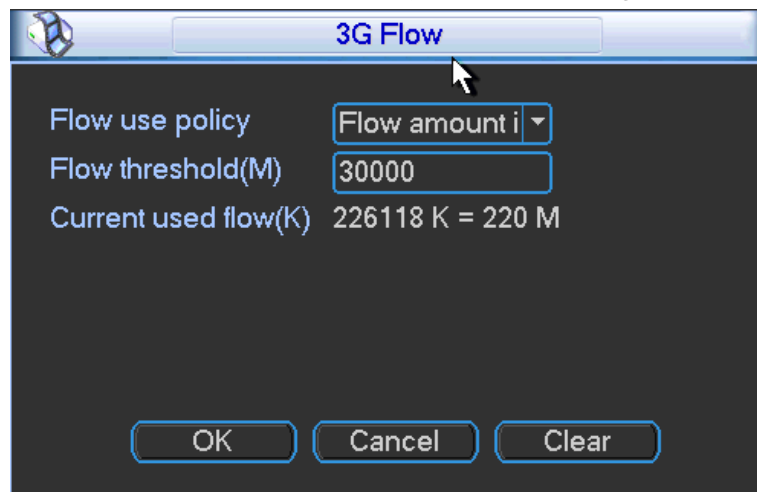

Figure 4-27
- 3G flow control: It is to show the 3G flow you used. See Figure 4-27.